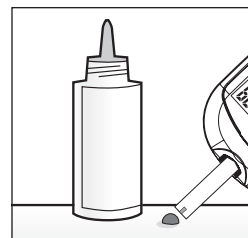

Figure 4
- Apply the drop to the opening of the absorbent channel of the test strip (where it meets the narrow channel) until the confirmation window is filled. *See Figures 4 and 5.*